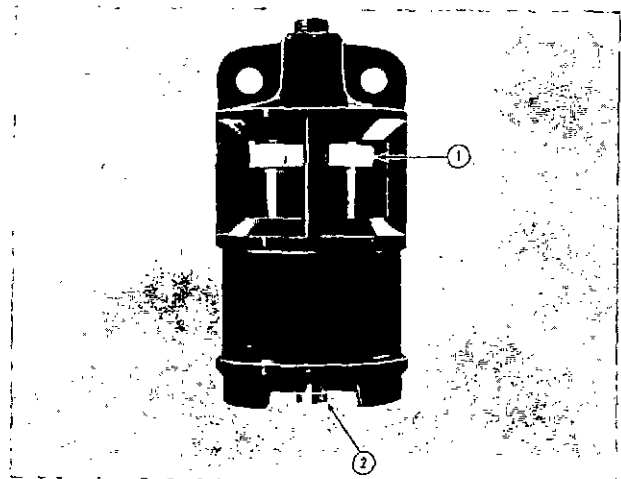

Fig. 5-13, CGS20. Air inlet restriction gauge
A mechanical restriction gauge is available to indicate excessive air restriction. This gauge can be mounted in air cleaner outlet or on vehicle instrument panel. The restriction indicator signals when to change cartridges. The red flag (1, Fig. 5-13) in window gradually rises as cartridge loads with dirt. Do not change cartridge until flag reaches top and locks in position. When locked, flag will remain up after engine is shut down. Change cartridge when flag locks at top. After changing cartridge, reset indicator by pushing re-set button (2). Push button all the way in firmly; then release. If button sticks, repeat pushing slowly.